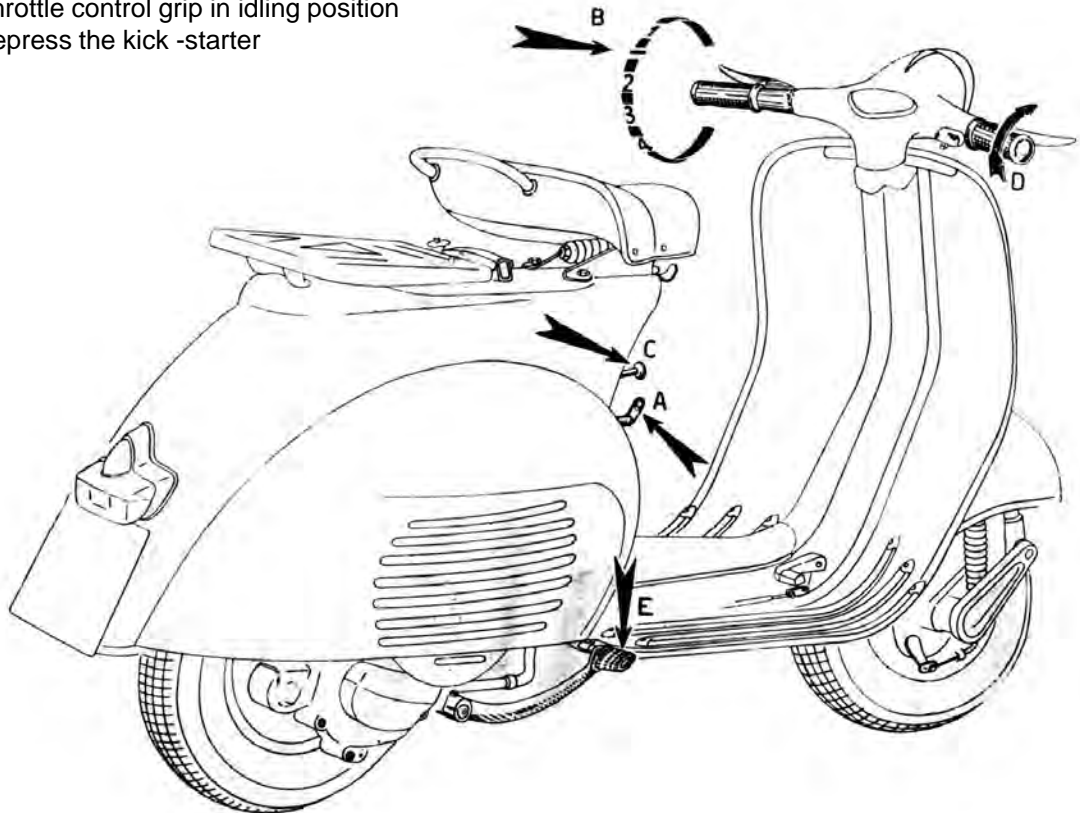

Fig. 14 - Operations to carry out for starting the engine
**Starting the engine.** Open fuel tap, put gear box in neutral and the throttle in slow running position, then depress the starting lever (see Fig. 14).